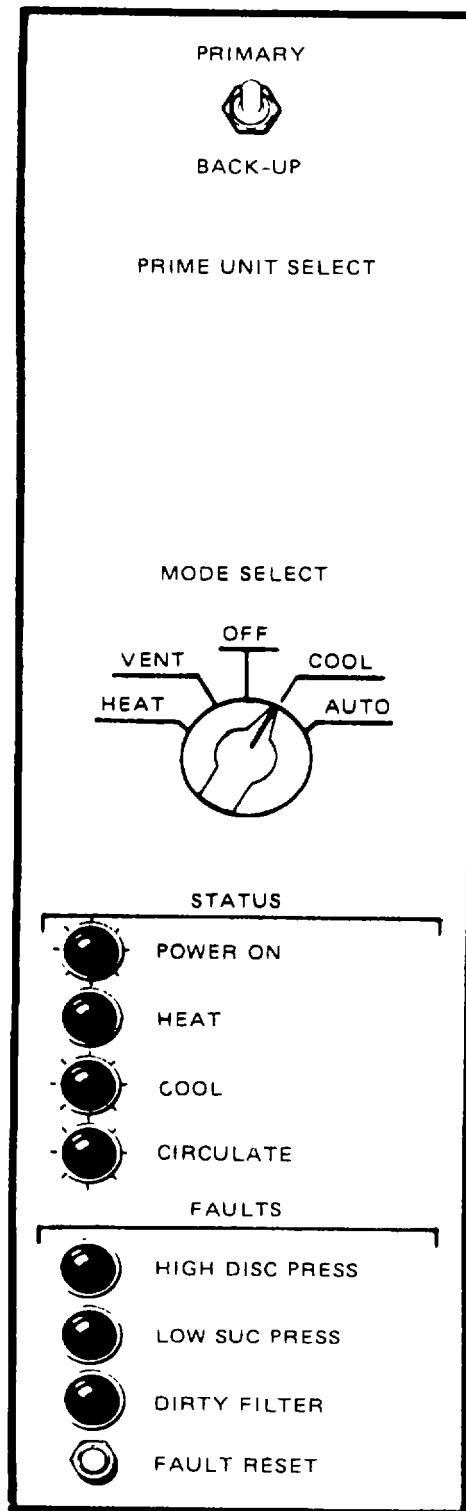

Figure 2-5. Cool Mode
**2.10 OPERATION IN COOL MODE** (see fig. 2-5)